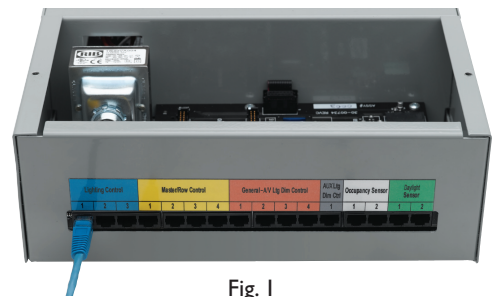

Fig. 1
2. Plug the Blue CAT5 cable, available separately, into the Lighting Control Station connector on the Zone5 Control Module *(See Figure 1)*. Each CAT5 connection will operate properly from any of the three available blue Lighting Control Station ports. Multiple connections are required under the following circumstances.